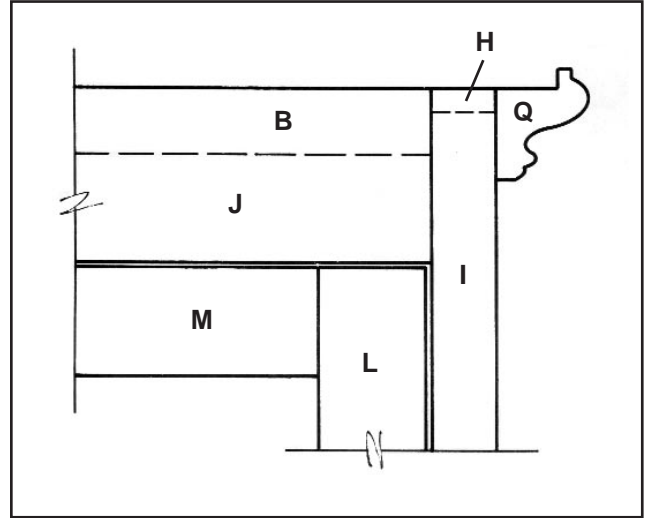

Figure 2
10. Cut and attach molding P and Q. Use 1" finish nails and glue. Refer to Figure 2 and Isometric.